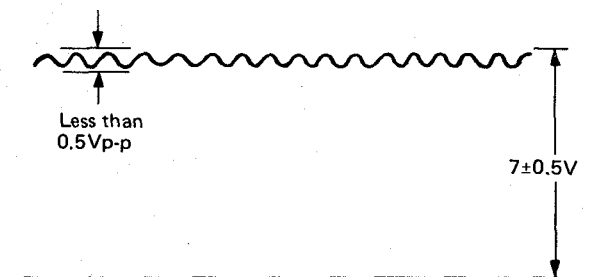

Figure 75.
2. Observe the output of TP-716 on oscilloscope (internal trigger), and check its value are as shown in Fig. 75.